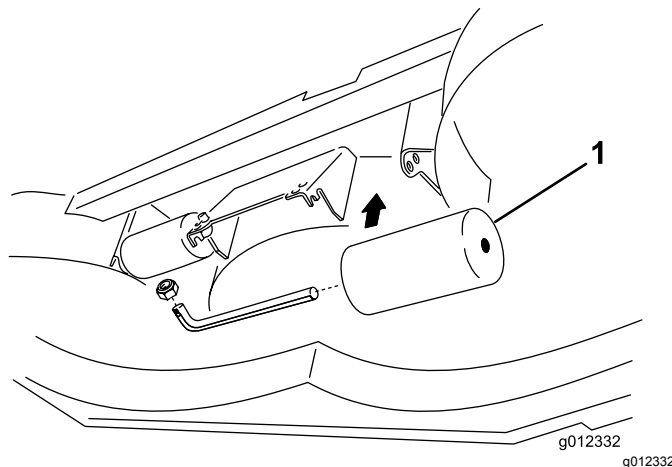

Figure 11
4. To adjust the rear (internal) rollers, refer to Figure 11.